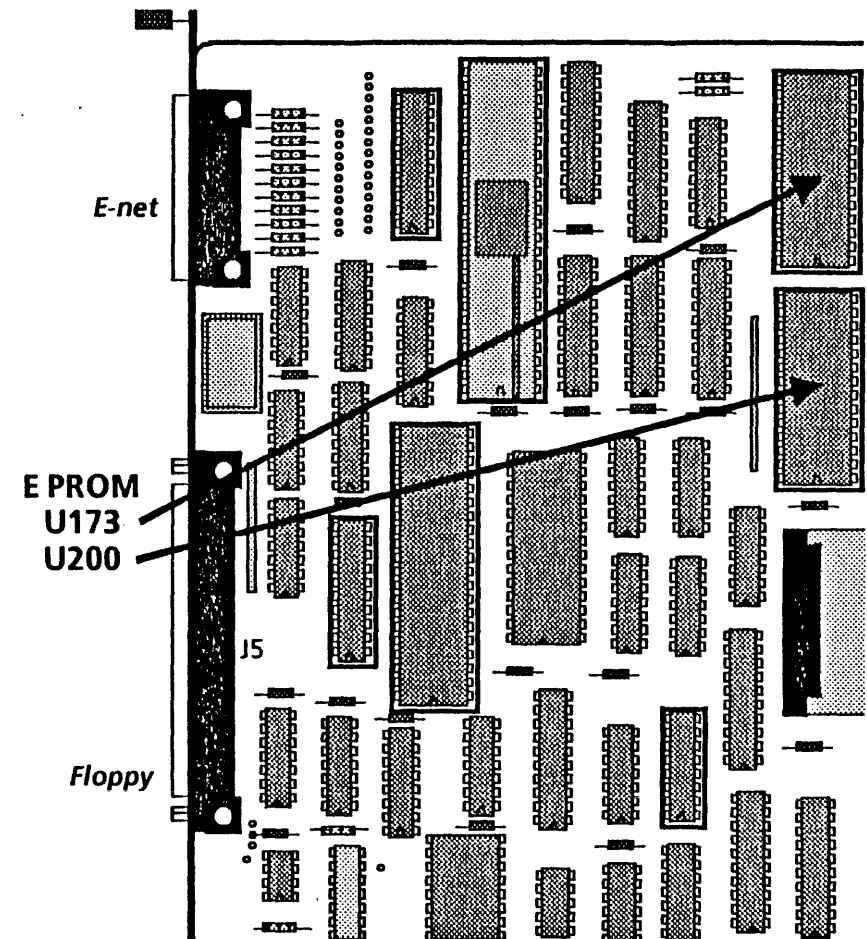

Figure 4-10 Boot PROM Locations (B1 Only)
6. Locate either the Boot or RDC PROMs (whichever you have been directed to replace) on the IOP PWBA (Figure 4-10, 4-10A, or 4-11) and remove them using the IC Chip removal procedure. (4.17)